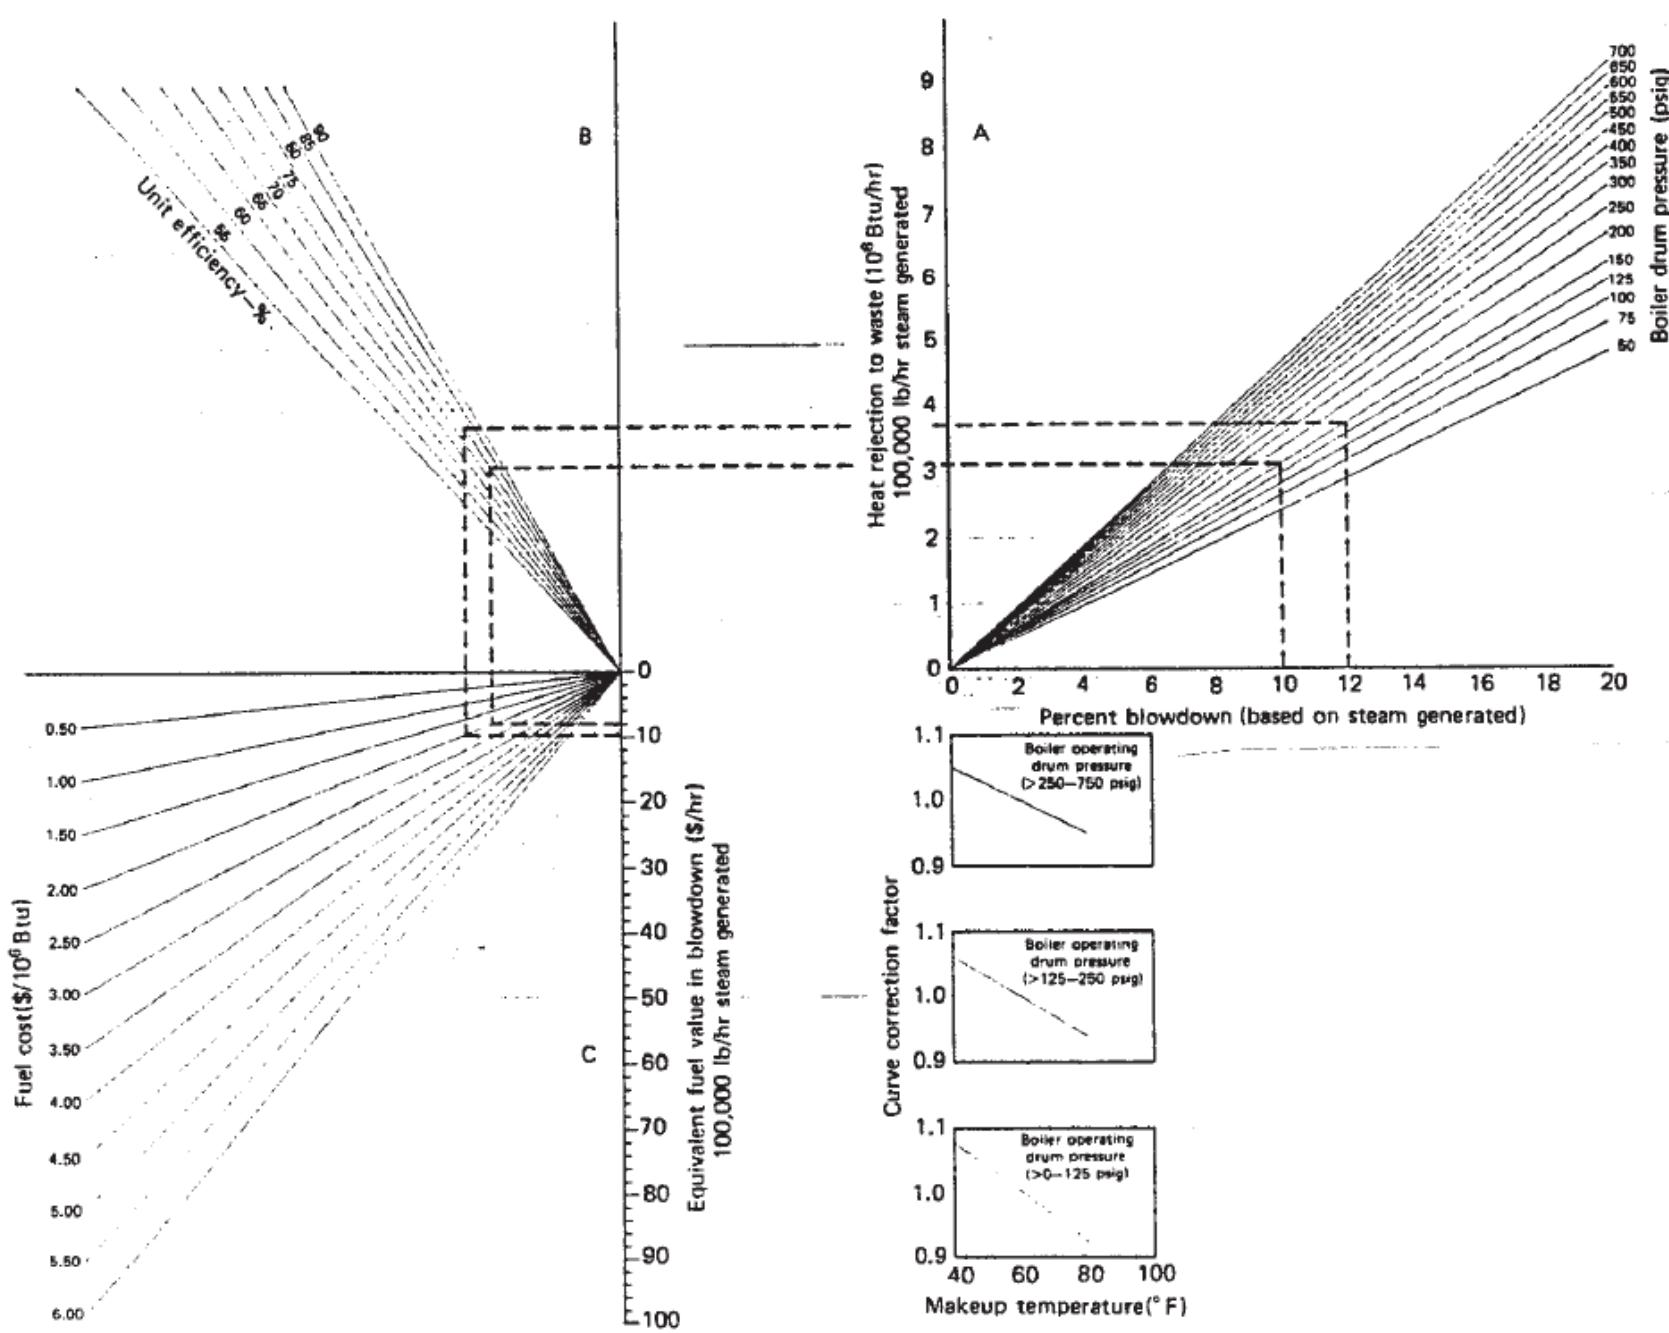

Figure 5.13 Hourly cost of blowdown.
- **Example:** Determine the potential energy savings associated with reducing boiler blowdown from 12% to 10% using Figure 5.13.
STEP 3: Evaluate the Cost of Excess Blowdown. The amount of actual boiler blowdown (as calculated in equation 5.4) that is in excess of the amount of required blowdown (as calculated in equation 5.6) is considered as wasting energy since this water has already been heated to the saturation temperature corresponding to the boiler drum pressure. The curves presented in Figure 5.13 provide an easy method of evaluating the cost of excess blowdown as a function of various fuel costs and boiler efficiencies.